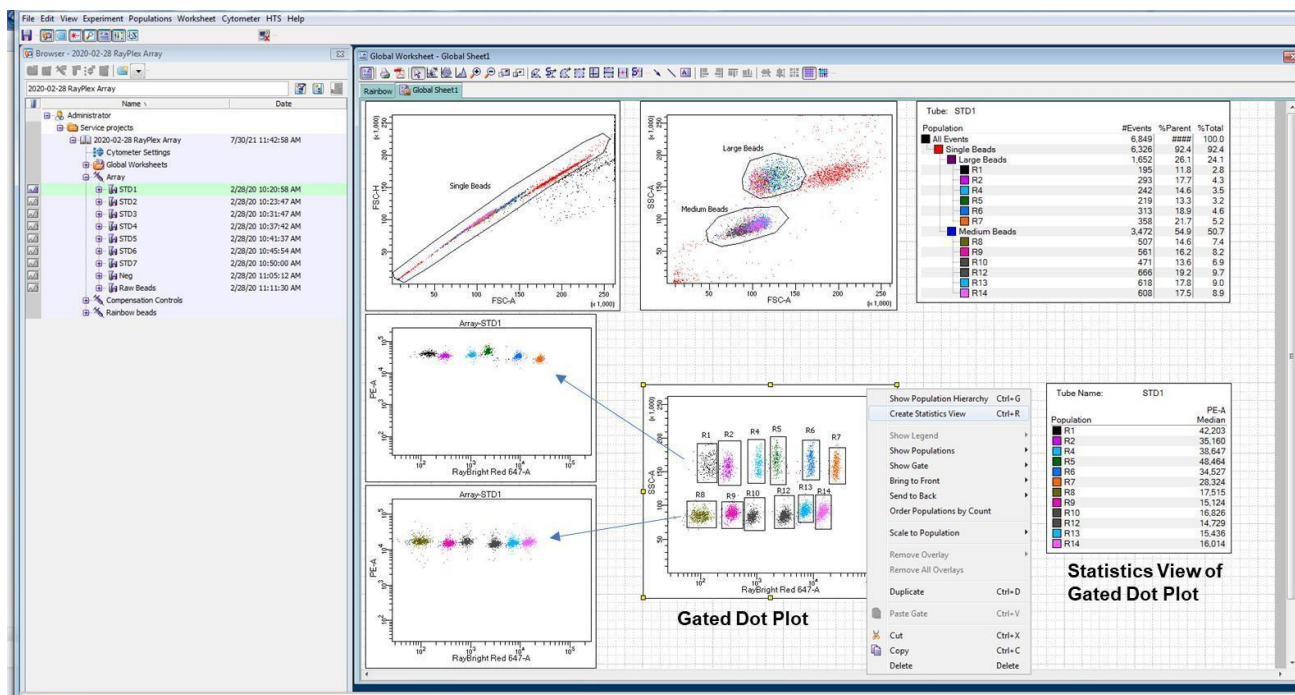
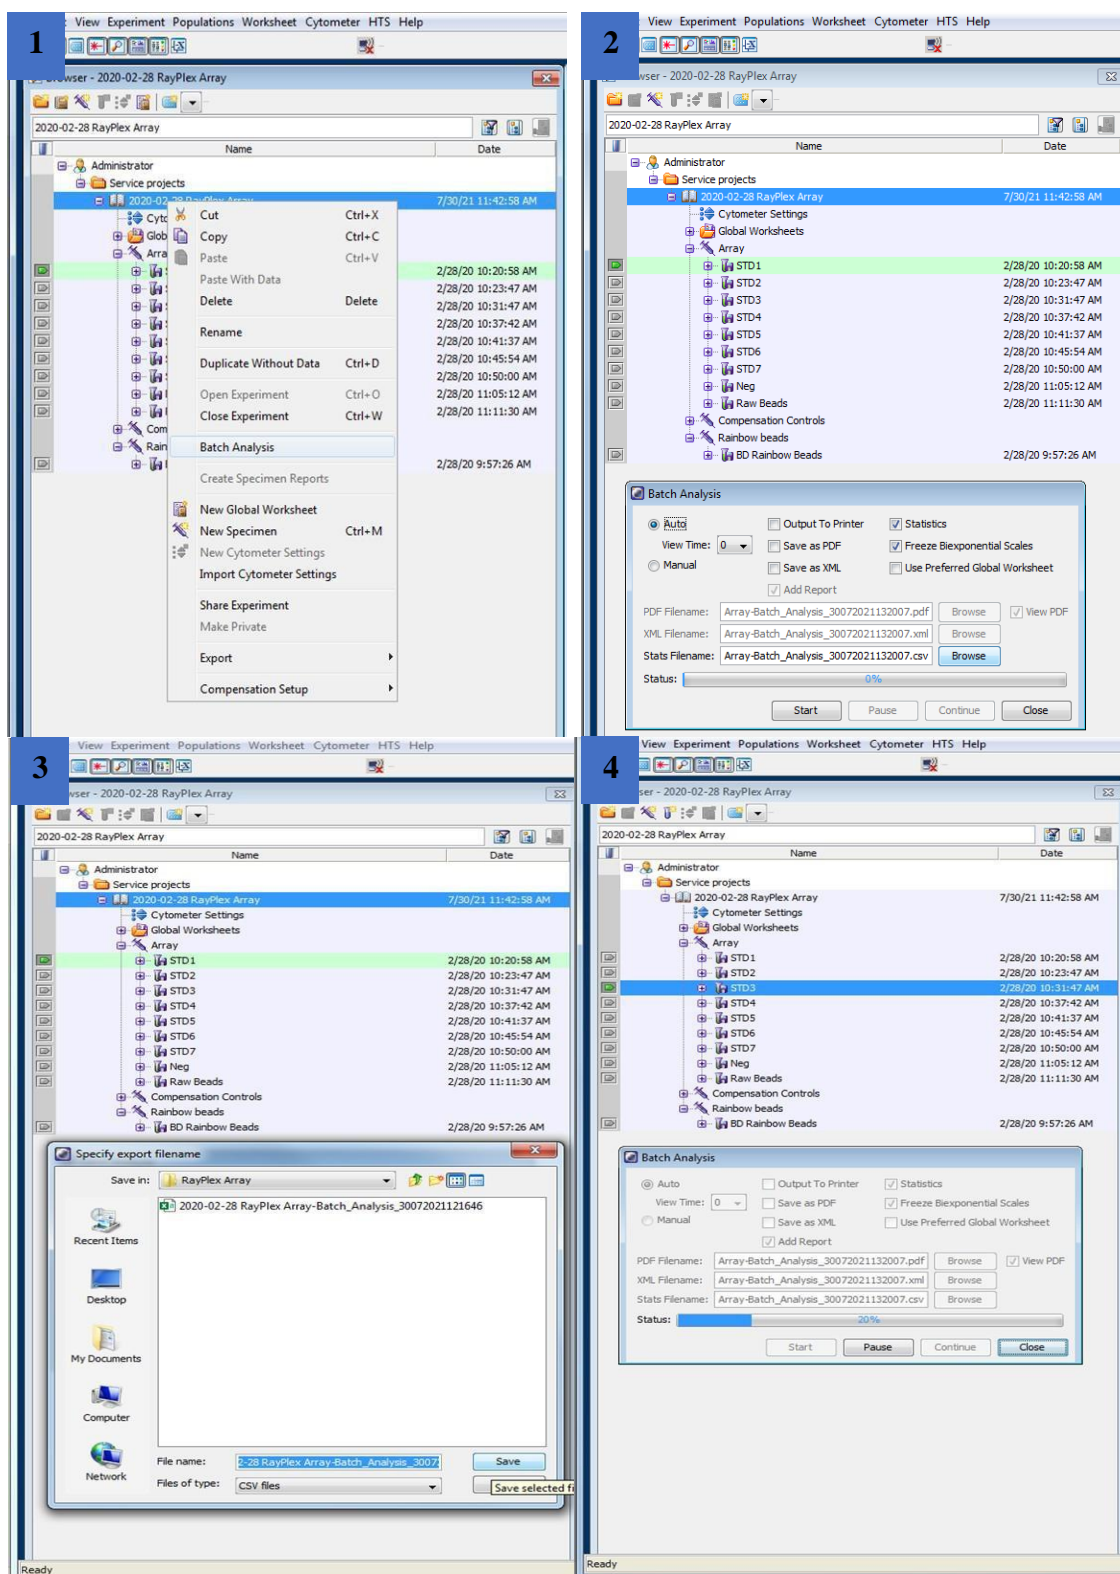

Figure 4. Screenshot of Creating Statistics View from the dot plot of gated beads populations. This is representative data only.
Figure 5. Screen shot showing how to begin the batch analysis through manual tube mode.
Batch analysis allows exporting PE MFI data of each bead population directly from FACS Diva. Before batch analysis, it's important to create statistics view from the dot plot of gated beads populations and choose “PE-A Median” to be shown (Figure 4). Batch analysis can be done in either manual tube mode or HTS mode. Both methods for batch analysis are described below (Figure 5 and 6).
1. Create a dot plot by SSC-A (linear) and APC-A (log) to show all beads populations and make a gate for each population (see figure 4, “Gated Dot Plot”, R1~R14). Right click on the dot plot to “Create Statistics View”, then edit the statistics view so that “PE-A Median” of gated beads populations are shown (Figure 4, “Statistics View of Gated Plot”).